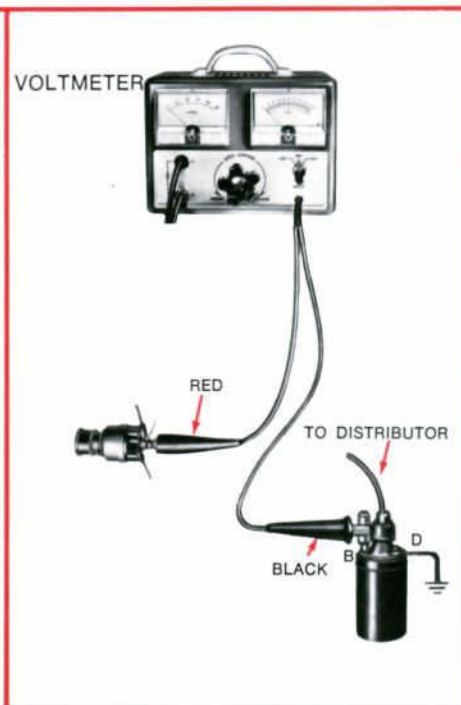

Figure 5—Details for Connecting Voltmeter to Make Resistance Wire Test
1. Connect the voltmeter leads as shown in Figure 5 and install a jumper wire from the *DIST* terminal of the coil to a good ground.